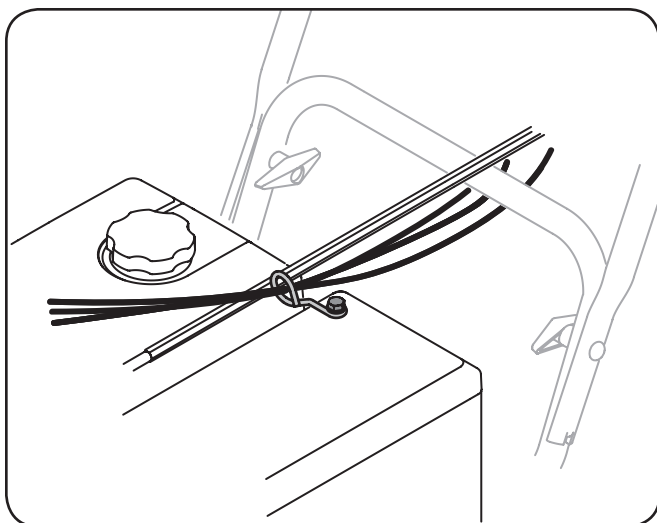

Figure 3-12
9. It is important that all cables be routed through the cable guide and remain positioned on the left side of the chute control rod. See Fig. 3-12.